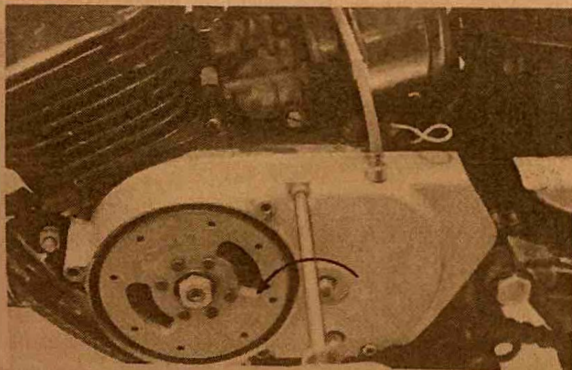

Fig. 4-1-6
5. On the HT1, equipped with a flywheel magneto, the wiring should be disconnected from the wire harness center at its connector. (Fig. 4-1-6)